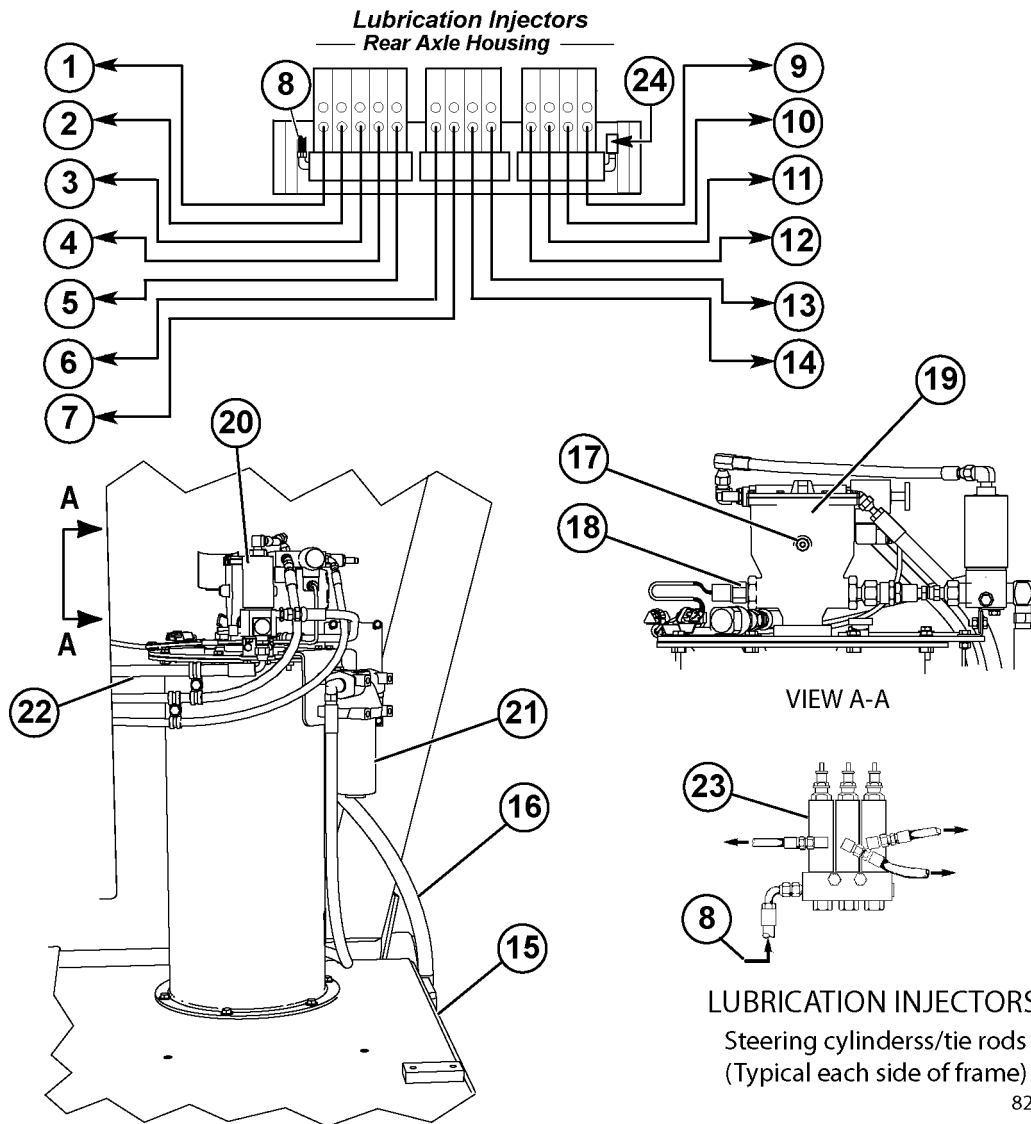
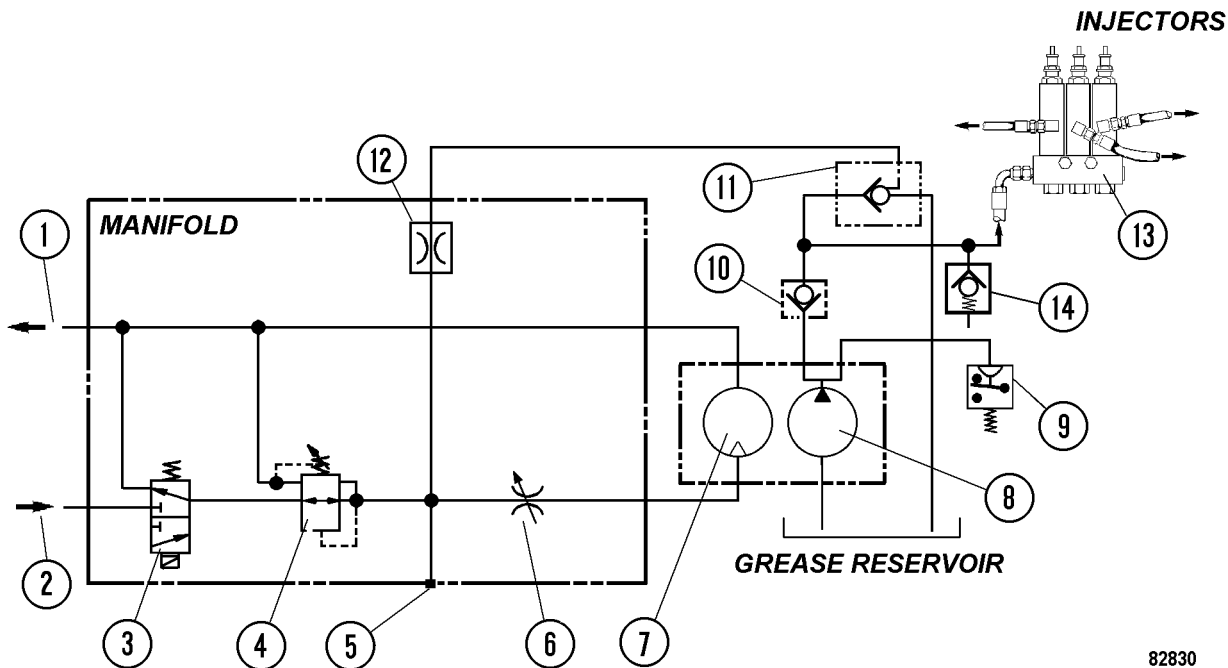

FIGURE 42-2. AUTOMATIC LUBRICATION SYSTEM INSTALLATION
FIGURE 42-3. HYDRAULIC SCHEMATIC
Filter assembly (21, Figure 42-2), mounted on the grease reservoir, filters the grease prior to refilling the reservoir from the shop supply. A bypass indicator alerts service personnel when the filter requires replacement.
NOTE: The pump crankcase oil level must be maintained to the level of pipe plug (17, Figure 42-2). If necessary, refill with 10W-30 motor oil.
The solid state lubrication cycle timer provides a 24 VDC timed-interval signal to energize solenoid valve (3, Figure 42-3), providing oil flow to operate the grease pump motor. This timer is mounted in the Electrical Interface Cabinet.
Pressure switch (18, Figure 42-2) is a normally open switch set at 20 684 kPa (3,000 psi). This switch de-energizes the pump solenoid relay if the grease line pressure reaches the switch pressure setting, turning off the motor and pump.
Pressure switch (24, Figure 42-2) is a normally open switch set at 13 789 kPa (2,000 psi). This switch monitors grease pressure in the injector bank on the rear axle housing. If the appropriate grease pressure is not achieved during the normal pump cycle, the warning system will be activated. The repair light will illuminate and a message will be displayed on the dash panel to notify the operator that a problem exists in the lubrication system.
Each injector (23, Figure 42-2) delivers a controlled amount of pressurized lubricant to a designated lube point. Refer to Figure 42-2 for locations.
Unloader valve (14, Figure 42-3) protects the pump from high pressures. This relief valve is set at 27 580 kPa (4,000 psi).
2. The timer provides 24 VDC to energize pump solenoid valve (3, Figure 42-3), allowing hydraulic oil provided by the truck steering pump circuit to flow to the pump motor and initiate a pumping cycle.
3. The hydraulic oil from the steering circuit is directed through the pressure reducing valve (4) and flow control valve (6) before entering the motor. Pump pressure can be read on optional pressure gauge (5) mounted on the manifold.
4. With oil flowing into the hydraulic motor, the grease pump will operate, pumping grease from the reservoir to injectors (13), through check valve (10) and to vent valve (11).
6. When grease pressure reaches the setting of pressure switch (18, Figure 42-2), the switch contacts will close and energize the relay RB7-K8, removing power from the hydraulic motor/pump solenoid so the pump will stop. The relay will remain energized until grease pressure drops (pressure switch opens again) and the timer turns off.
7. After the pump solenoid valve is de-energized, hydraulic pressure in the manifold drops and vent valve (11, Figure 42-3) will open, releasing grease pressure in the lines to the injector banks. When this occurs, the injectors are then able to recharge for the next lubrication cycle.